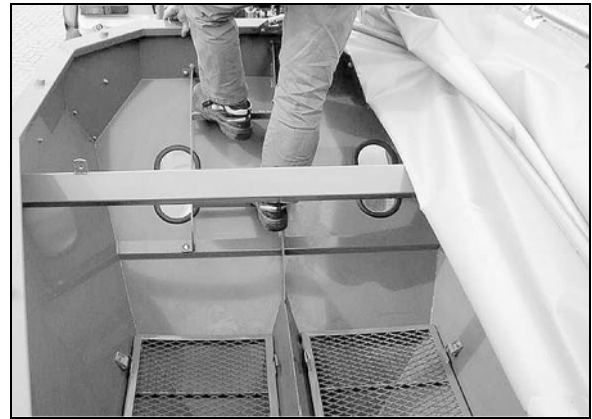

Fig. 60
2. Use the stair steps (Fig. 60) to climb into the seed hopper.